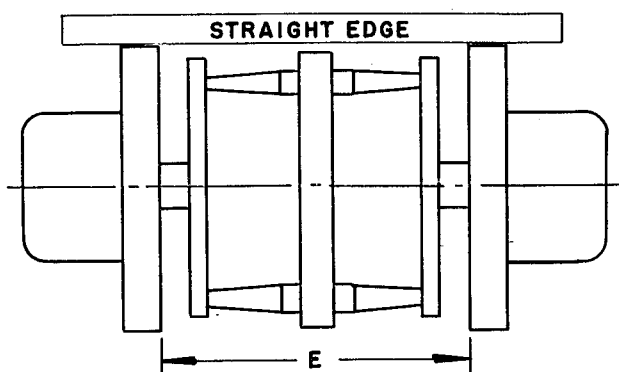
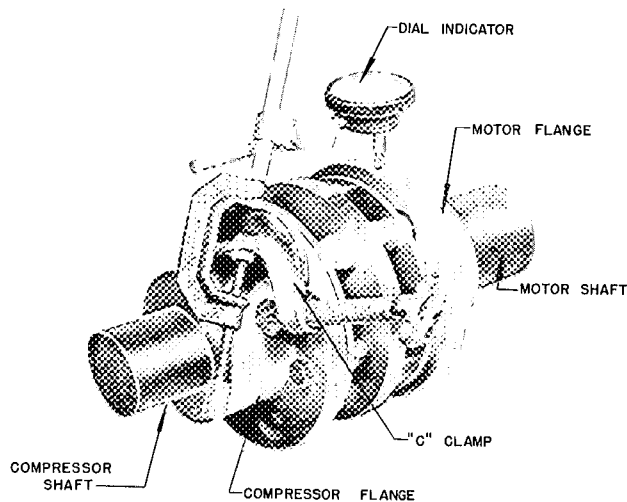

FIG. 10 — PRELIMINARY ALIGNMENT
FIG. 14 — SETUP FOR MEASURING PARALLEL MISALIGNMENT WITH DIAL INDICATOR
(G) Fig. 10, 11, 12 and 13 illustrate forms of aligned and mis-aligned couplings. Suggested tools for alignment are: the straight edge, inside calipers, feeler gauge and a steel rule graduated in 64ths.
(M) The dial indicator can be a help in correcting *parallel* mis-alignment, providing the user fully understands our limits on mis-alignment, where to measure, and what the dial indicator reading means. Because of the difficulty which would be encountered, we do not recommend that the dial indicator be used for angular mis-alignment. To determine if parallel mis-alignment exists, refer to paragraph "K" of this section. Before proceeding to use the dial indicator, the coupling should be placed in approximate alignment, using the straight-edge as in Fig. 10. Once this has been done, the dial indicator should be clamped securely to one of the flanges. See Fig. 14. We have found that a "C" clamp tightened to the hub of one of the flanges will provide an adequately stiff
Make sure that the indicator assembly joints are tightly clamped and that the indicator assembly, as shown in Fig. 14, is stiff. Set the indicator dial so that the pointer shows a reading of zero. Rotate the coupling and note the readings at the top and bottom and at each side. Reading the indicator while at the bottom may be facilitated by the use of a small mirror. The thickness of the shims to be used under the motor feet is one half the difference between the top and the bottom reading. The motor must be moved sideways to make the indicator reading equal on each side. For example, if the indicator is attached to the compressor flange, and the readings were as follows: